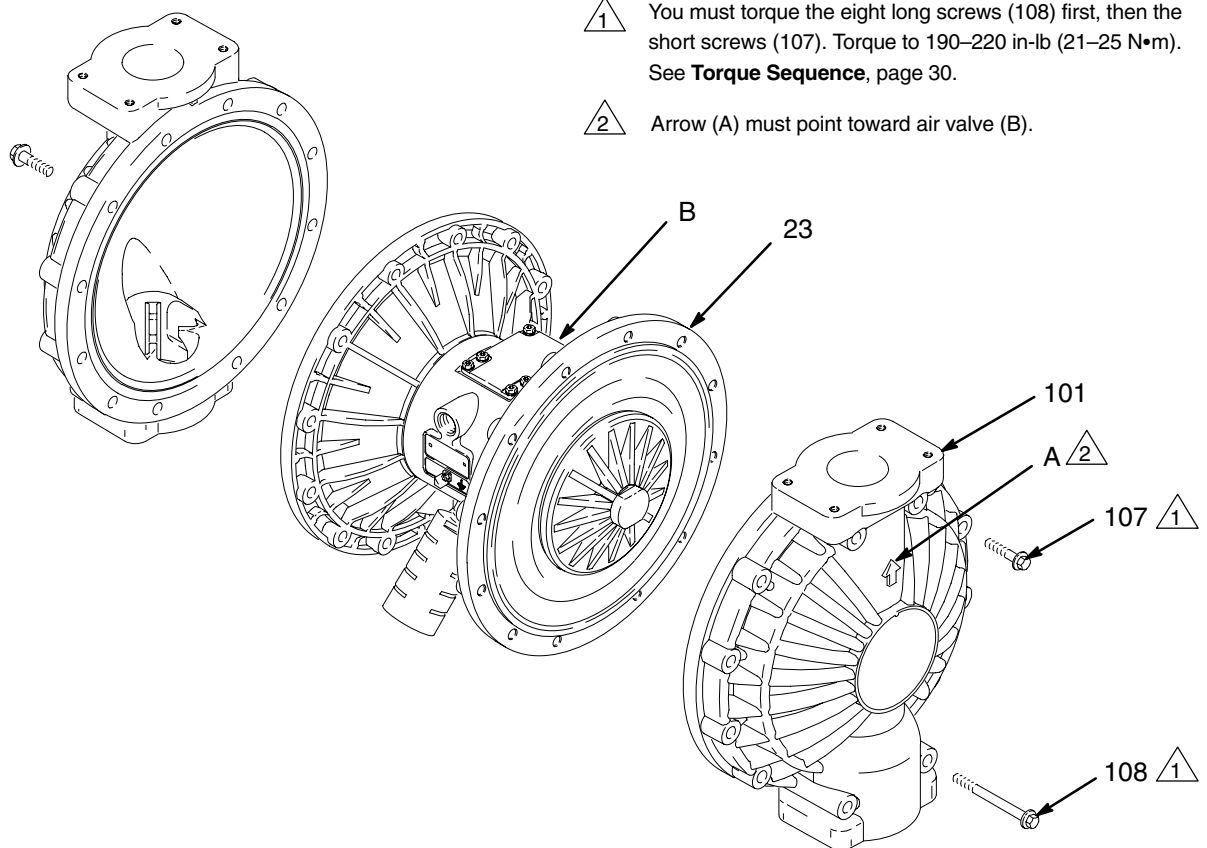

Fig. 12
3. Using 13 mm socket wrenches, remove the screws (107 and 108) holding the fluid covers (101) to the air covers (23). Pull the fluid covers (101) off the pump. See Fig. 12.
**1** You must torque the eight long screws (108) first, then the short screws (107). Torque to 190–220 in-lb (21–25 N•m). See **Torque Sequence**, page 30.
**2** Arrow (A) must point toward air valve (B).
*For overmolded diaphragms:* Assemble the air side plate (104) onto the diaphragm (403). The wide, radiused side of the plate must face the diaphragm. Apply medium-strength (blue) Loctite or equivalent to the threads of the diaphragm assembly. Screw the assembly into the shaft (24) hand tight. **NOTE:** *Step 4 does not apply to pumps with overmolded diaphragms; go to step 5.*
4. Apply medium-strength (blue) Loctite® or equivalent to the threads of the fluid-side plates (105). Hold one of the outer plates (105) with a wrench, and torque the other outer plate to 20 to 25 ft-lb (27 to 34 N-m) at 100 rpm maximum. Do not over-torque.
5. Align the fluid covers (101) and the center housing (1) so the arrows (A) on the covers face the same direction as the air valve (B). Secure the covers with the screws (107 and 108), handtight. Install the longer screws (108) in the top and bottom holes of the covers. See Fig. 12.
6. First, torque the longer screws (108) oppositely and evenly to 190–220 in-lb (21–25 N•m), using a 13 mm socket wrench. Then torque the shorter screws (107). See **Torque Sequence**, page 30.